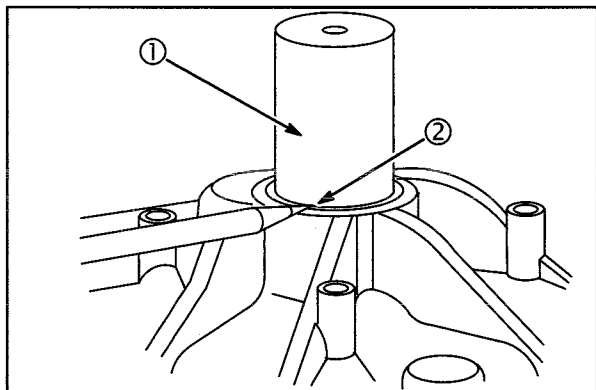

Fig. 6
2. Insert Bushing Driver #19450 (1) into bearing from oil seal side, Fig. 6.
3. Place a reference mark (2) on driver to indicate proper depth when installing new bearing.
Insert Bushing Driver #19349 into bearing from oil seal side. Place a reference mark on driver to indicate proper depth of bushing when installing new bearing, as shown, **Fig. 6**.